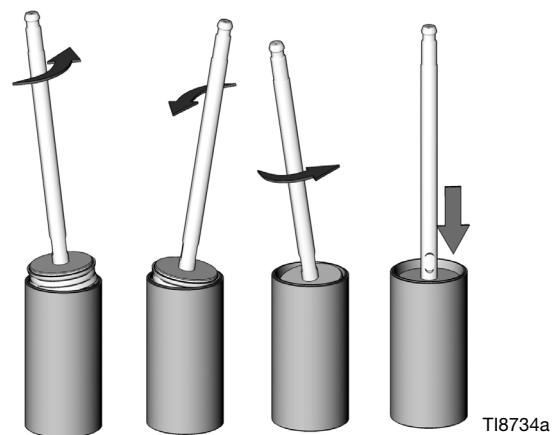

FIG. 7. Install Piston in Cylinder
1. Reinstall the plugs (50, 52) into the upper (8) and lower (7) fluid housing.
2. Install the pressure relief valve (48) in the upper housing (8) directly across from where the inlet manifold will be attached (49). Torque the pressure relief valve (48) to 100-135 in-lb (11-15 N•m).
3. Mount the lower (7) housing in a vise.
4. Install the pump rod assembly into the cylinder (6). Lubricate the inside of the cylinder (6). Slide the piston assembly into the cylinder (6). Rotate the piston assembly as shown in FIG. 7.